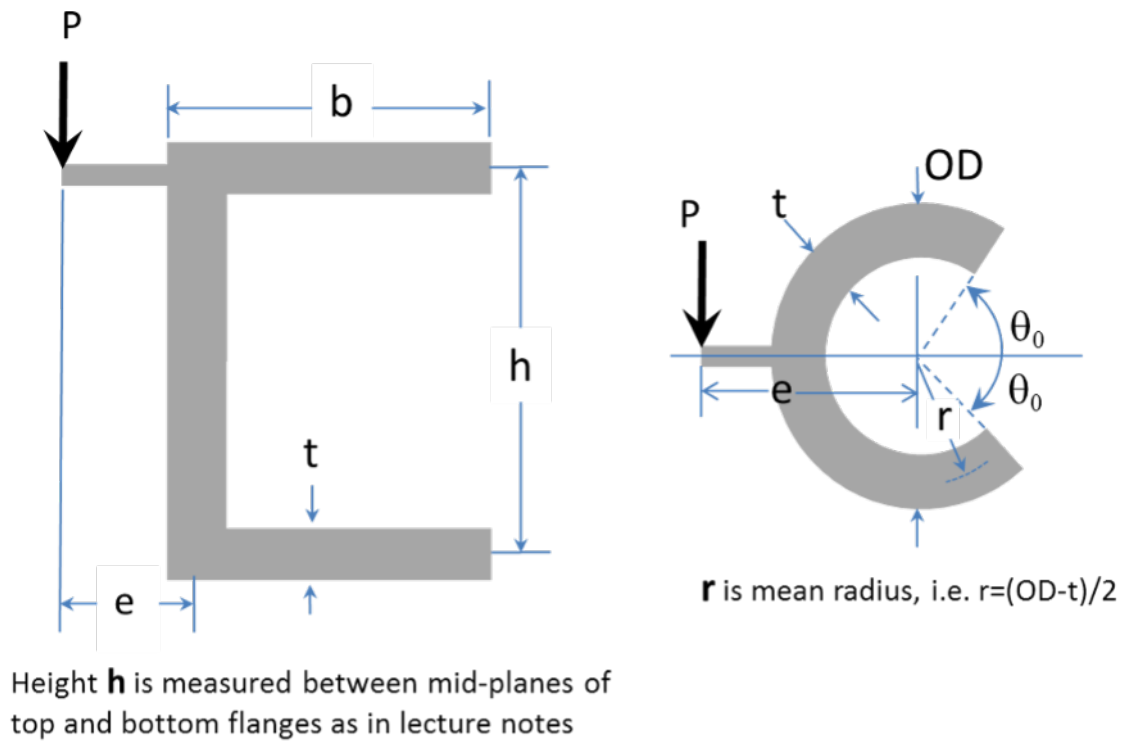

Figure 1: Schematic diagrams of the thin-walled cross section of specimen: (left) C-channel and (right) circular open channel.
*Hint: To derive the expression for  $I$  for specimens I and II, you can do one of two ways: (1) calculate  $I$  for the horizontal flanges and vertical web individually and then sum up or (2) use “subtraction” method by calculating  $I$  for a larger “outer” rectangular area and then subtracting it from  $I$  of the smaller “inner” area. You will also need parallel axis theorem. Also, as indicated in Figure 1, the shear center offset  $e$  for the C-channel beams is measured from the center of the vertical web, while  $e$  for the circular open-channel pipes is measured from the center of circular cross section. Likewise, height  $h$  is measured between mid-planes of top and bottom flanges, and  $r$  is mean radius, i.e.,  $r = \frac{OD-t}{2}$ .*
See Figure 1 for all the corresponding parameters  $h$ ,  $b$ ,  $t$ ,  $r$ , and  $\theta_0$ . Note that the *total opening angle is  $2\theta_0$* .